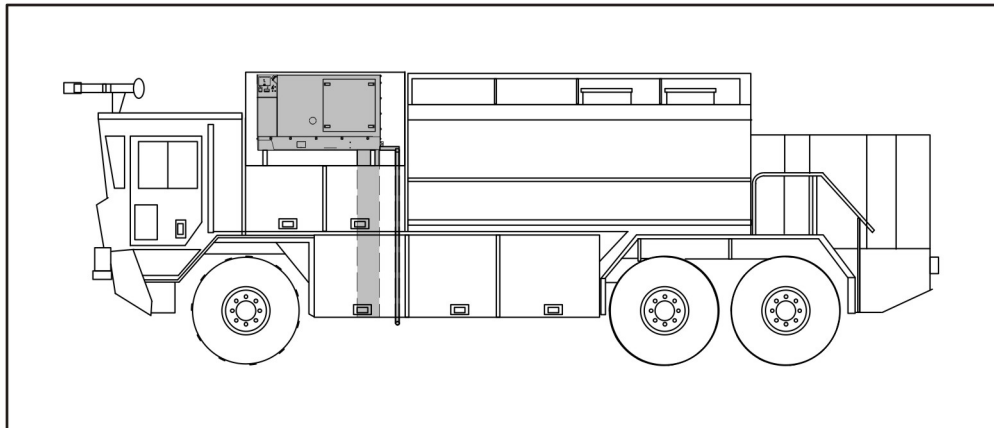

FIGURE 2. TYPICAL GENERATOR SET LOCATIONS - HIGH MOUNT
- Access for removing the two fuel pump mounting screws so that the generator set does not have to be removed to replace the fuel pump. See Figure 2.